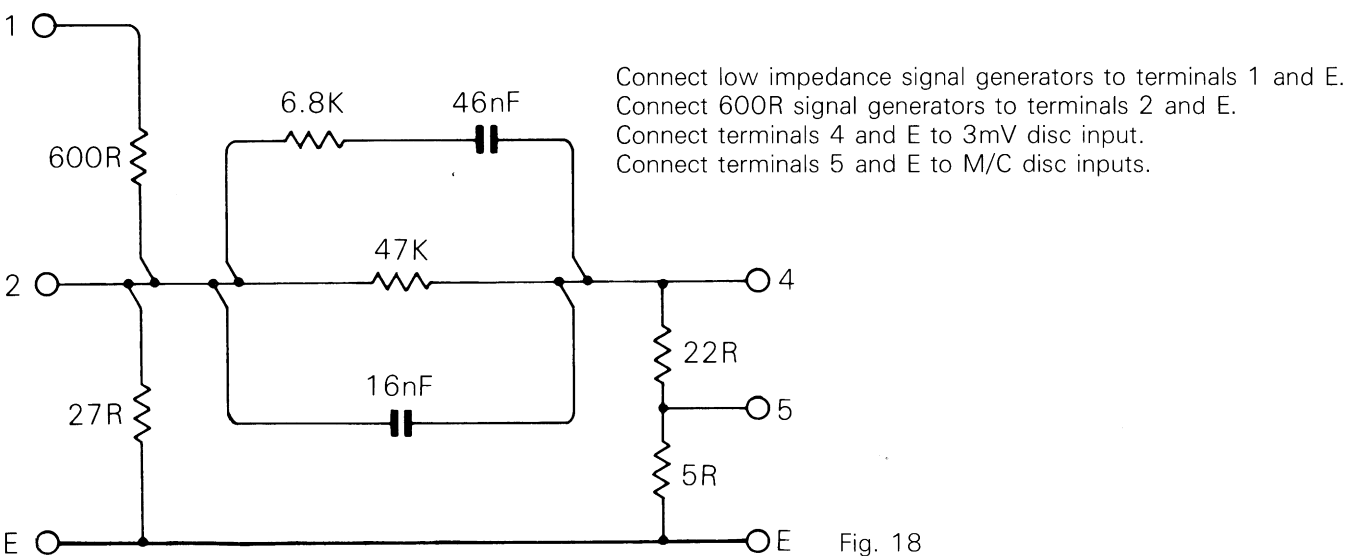

Fig. 18
- Anti RIAA Network (as shown in fig 18)